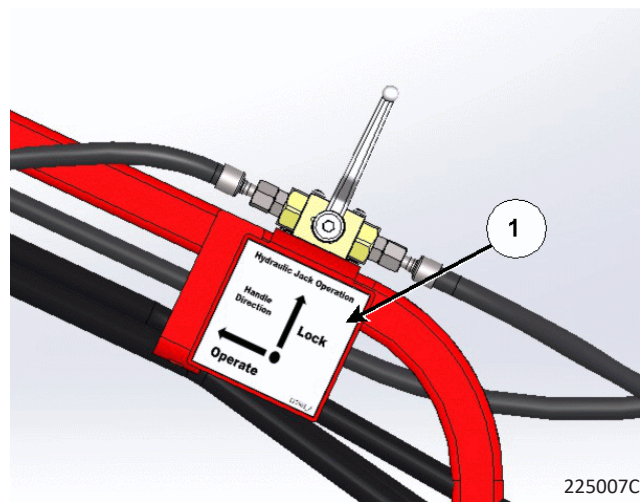

Figure 7: Affix the 'Hydraulic Jack Operation' decal
13. Affix the 'Hydraulic Jack Operation' decal (1) (part# E25605) to the center of the hydraulic ball valve mount, see *Figure 7*.